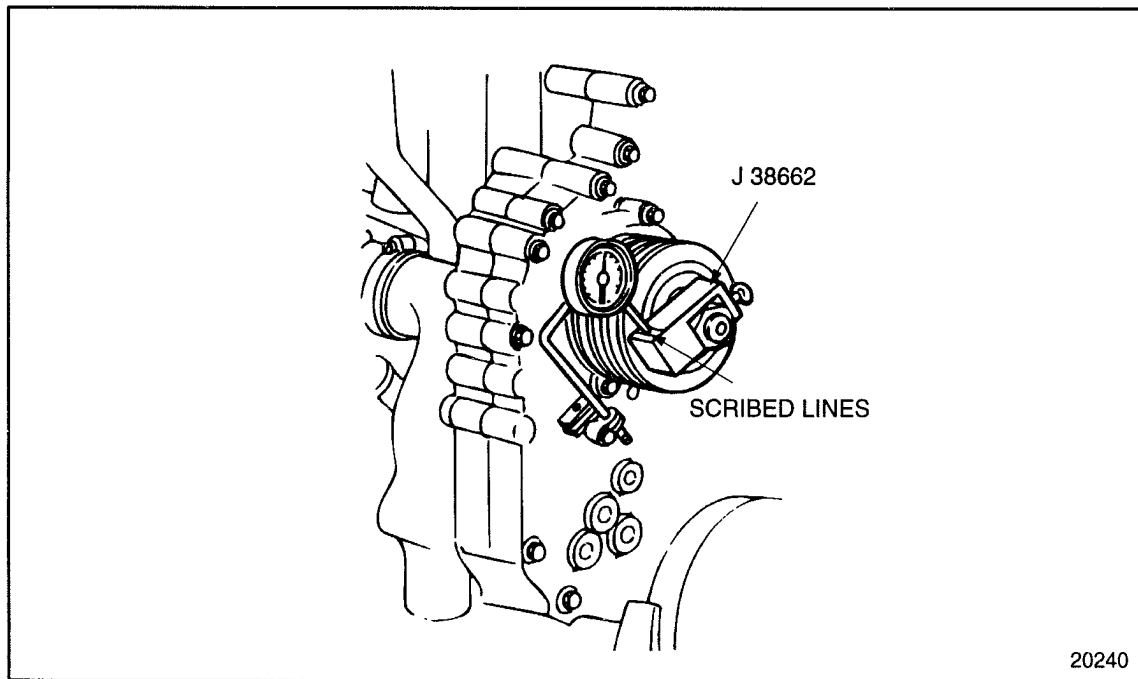

FIGURE 1-262 Accessory Drive Gear-to-Bull Gear Lash Measurement
- [a] Mount a magnetic dial indicator base and dial indicator to the gear case cover. See Figure 1-262.
- [b] Install the gear lash tool J 38662. See Figure 1-262.
- [c] Position the dial indicator to read between the scribed lines on the tool. See Figure 1-262.